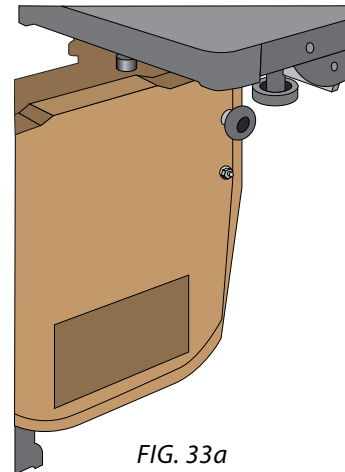

FIG. 33a
- b. Find a flat surface near that dust where you can cut a hole matching the diameter of your ductwork drop, plus room for the diameter of the Collar's flange [FIG. 33a].